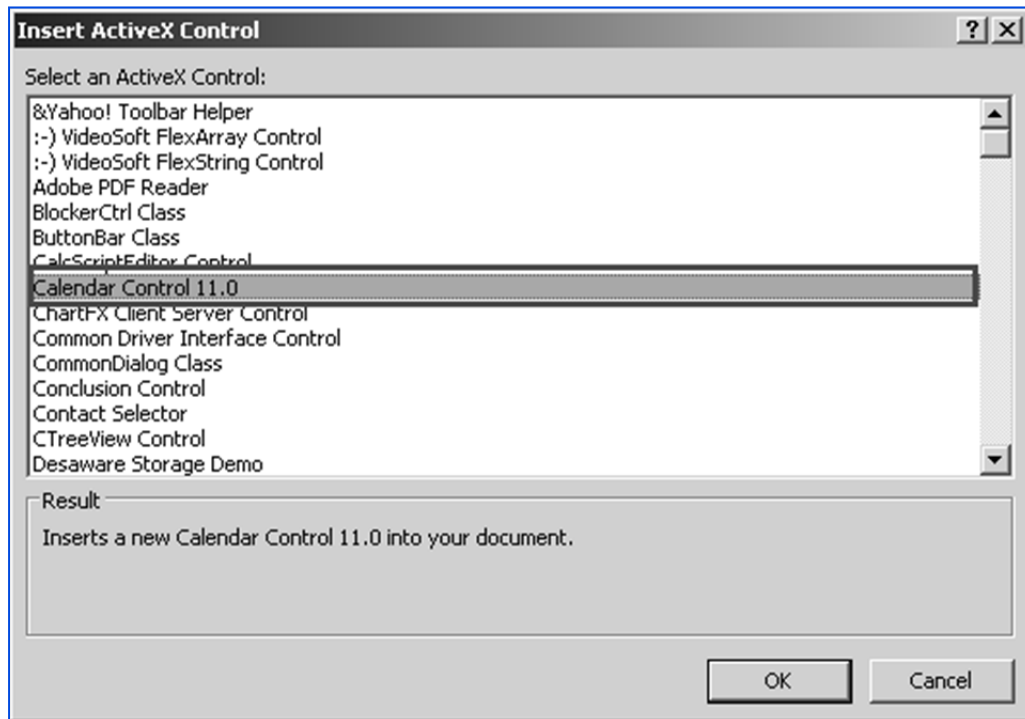

Fig. 2.3.3. Select Calendar control
3. The *Insert ActiveX* control window appears. Select *Calendar Control 11.0* from the list and click *OK*, as shown in Fig. 2.3.3.